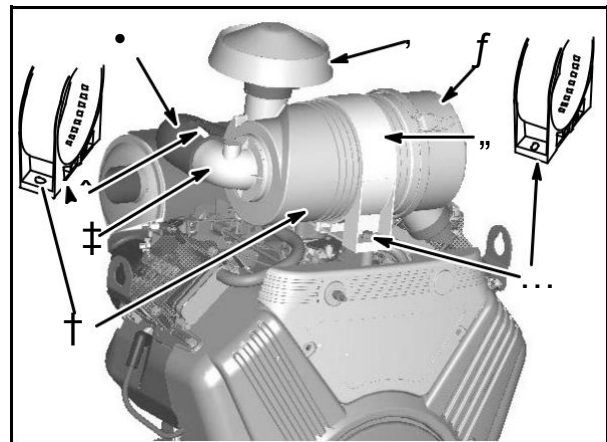

Fig. 43
Orient the air cleaner with the air inlet (2) facing UP. Tighten the air inlet hose clamp to **30 in. lbs. (3.4 Nm)**, **Fig. 43**.